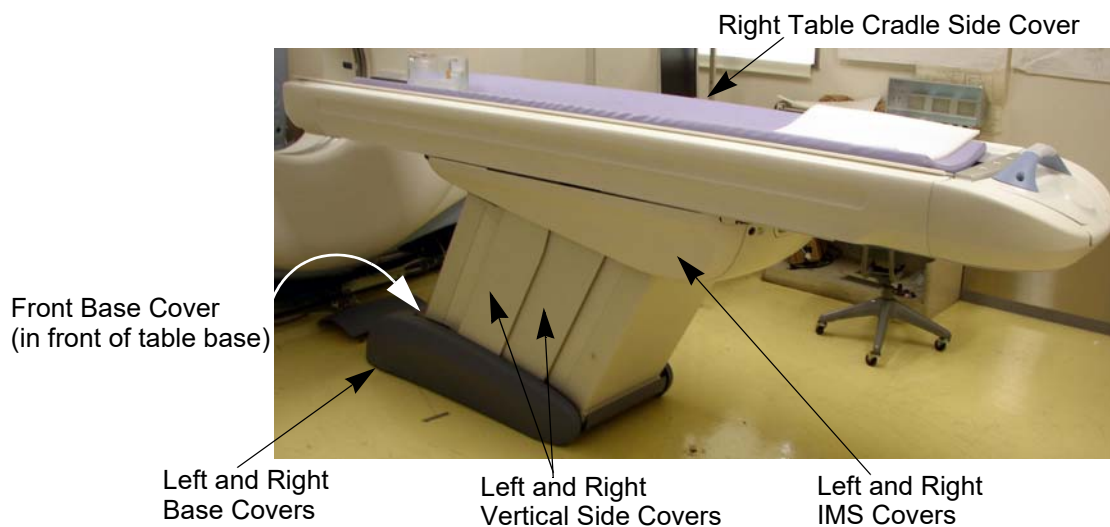

Figure 1-32 Table Covers
- 1.) Remove the table right side cover, as shown in Figure 1-32.